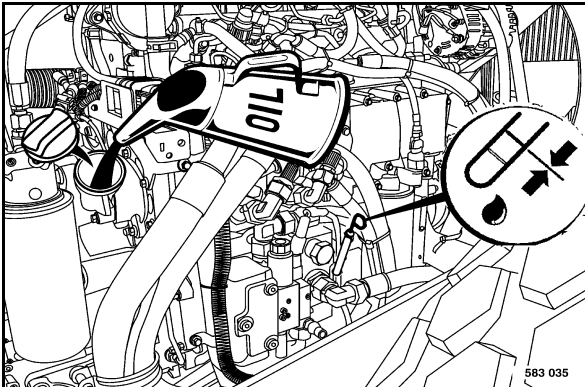

Fig. 139
- Fill in new engine oil (Fig. 139).